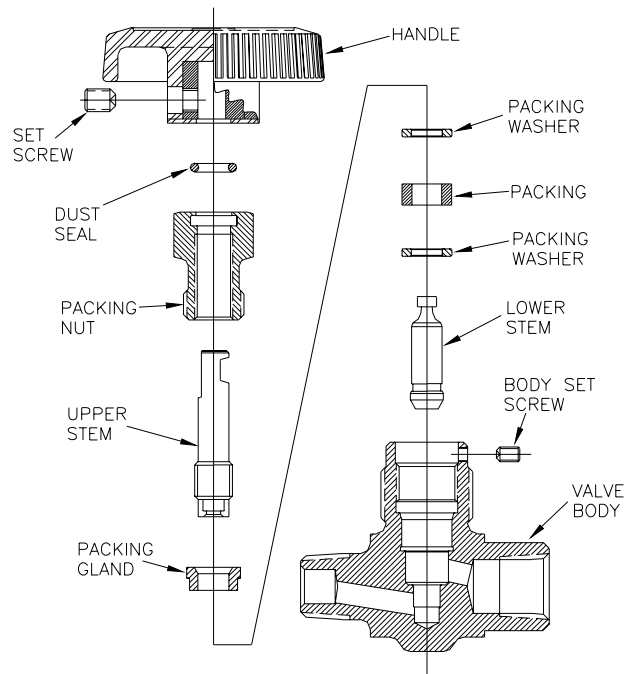

Figure 2: NP Series Needle Valve w/PTFE Packing Exploded View
4. Refer to Figure 2. Carefully install the Dust Seal O-Ring in the Packing Nut interior groove.
- A) **PTFE Stem Packing** (standard): Refer to Figure 2. Stack the four packing components on the Lower Stem (either "K" or "R") in the following order, with the first item being placed on the landing at the end of the stem. Then proceed to Step 8.